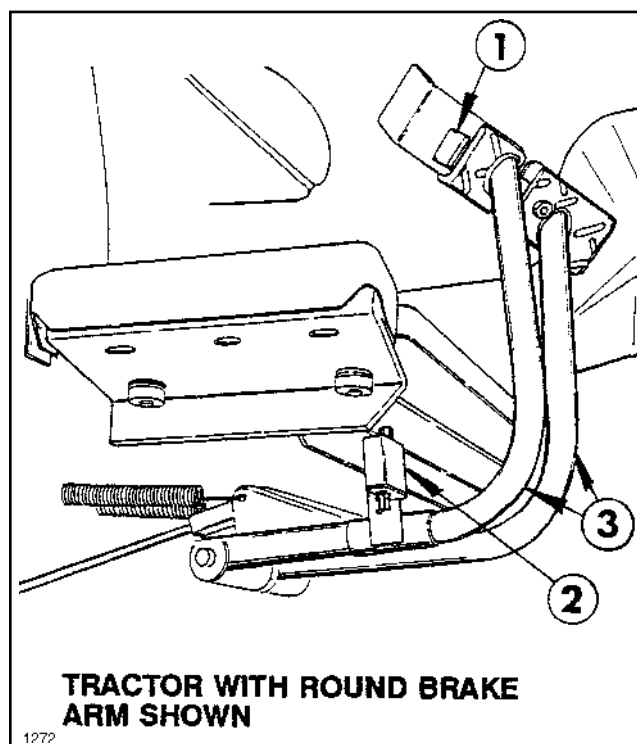

FIG. 3
1. Use the Brake Pedal Lock to lock the towing Tractor's Brake Pedals together. See FIG. 3.